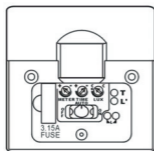

Fig. 4
6. Adjust the "TIME", "METER" and "LUX" knobs for "Walk Test" over the desired detection zone. (See Fig.4)